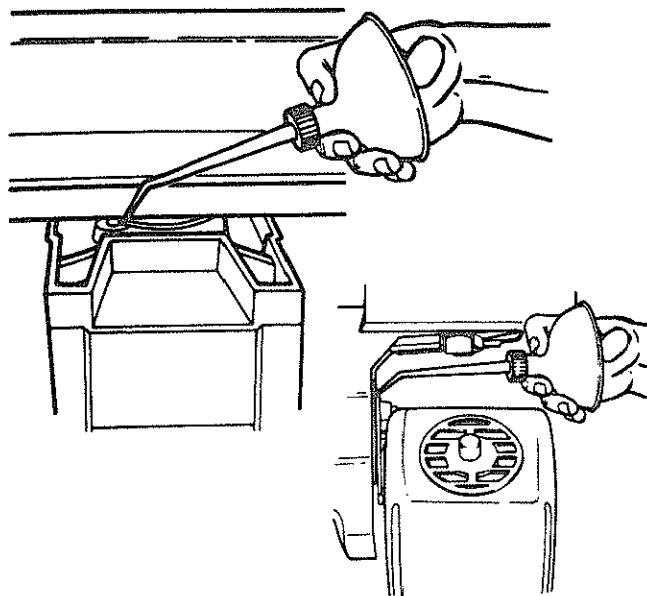

Fig. 174 - Swivel and Bevel Index Pins
- Apply a few drops of oil along the *swivel index pin* and the *bevel index pin* only if the pins have a tendency to stick. Swivel to in-rip or out-rip for easy access to the *swivel index pin*. Bevel to 45° and *bevel index pin* can be easily accessed behind the *yoke* as illustrated. (Figure 174)